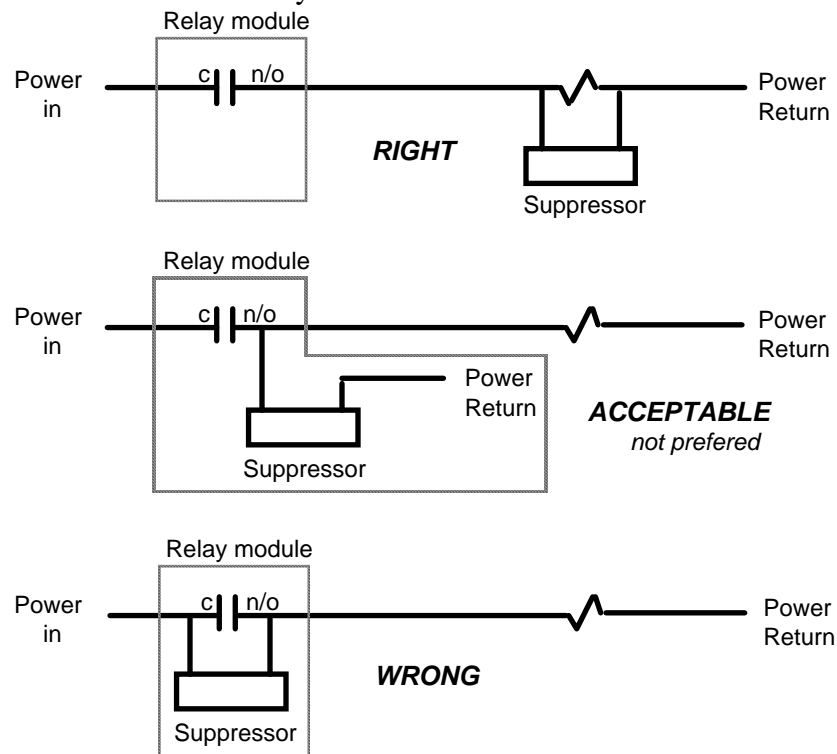

Figure 2-13. How to connect suppressors across the load
11. Install the suppressors across the load or as close to the load as possible. Attach suppressors by connecting leads across existing terminals or junction points. See Figure 2-13 for the correct way to install them.
11. Install the suppressors across the load and as close to the load as possible. Attach suppressors by connecting leads across existing terminals or junction points. See Figure 2-13 earlier in this section for the correct way to install them.